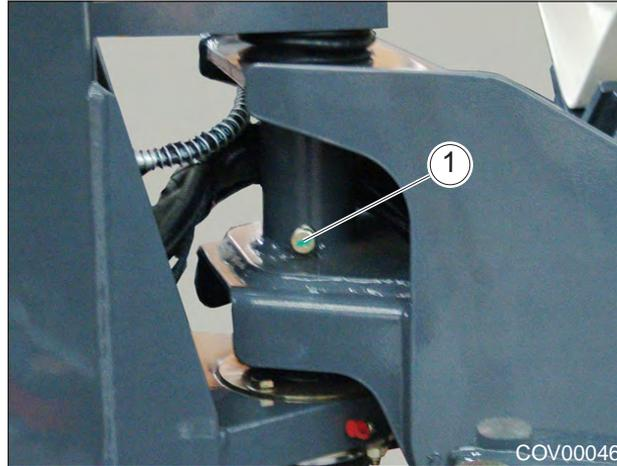

Figure 9.26.- Pivot Lock Screws
9.26 Centre Pivot**(1) Pivot Lock Screws**
The pivot pin locking screws, Figure 9.26 (1); should be checked periodically and if necessary re-tightened to a torque of 45Nm (33 lbf/ft).